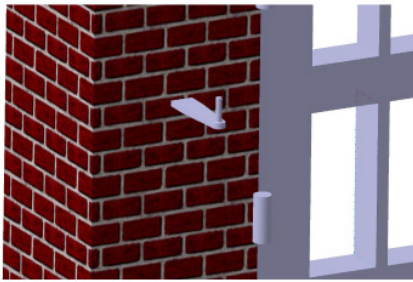
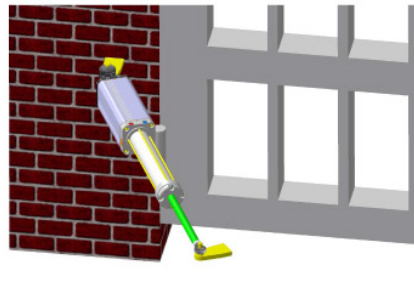
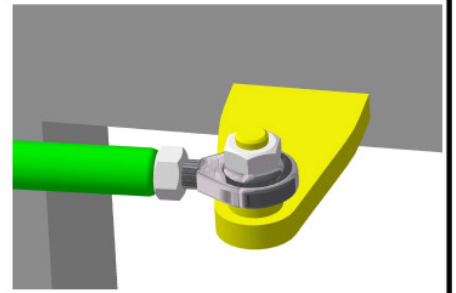

Fig.2
Fig.3
Fig.4
- 3) Shorten or lengthen the gate support according to the dimensions for C shown in the table on page 3. Connect the iS320 opener to the gate support, with the rod completely extended **(Fig.2 Page 5)** and with the swivel joint nut fully tightened **(Fig.3 Page 5)**. Once this has been done use a spirit level **(Fig.4 Page 5)** to mark the position of the gate support on the gate. Dismantle the gate support and fix it to the gate using the markings previously made.